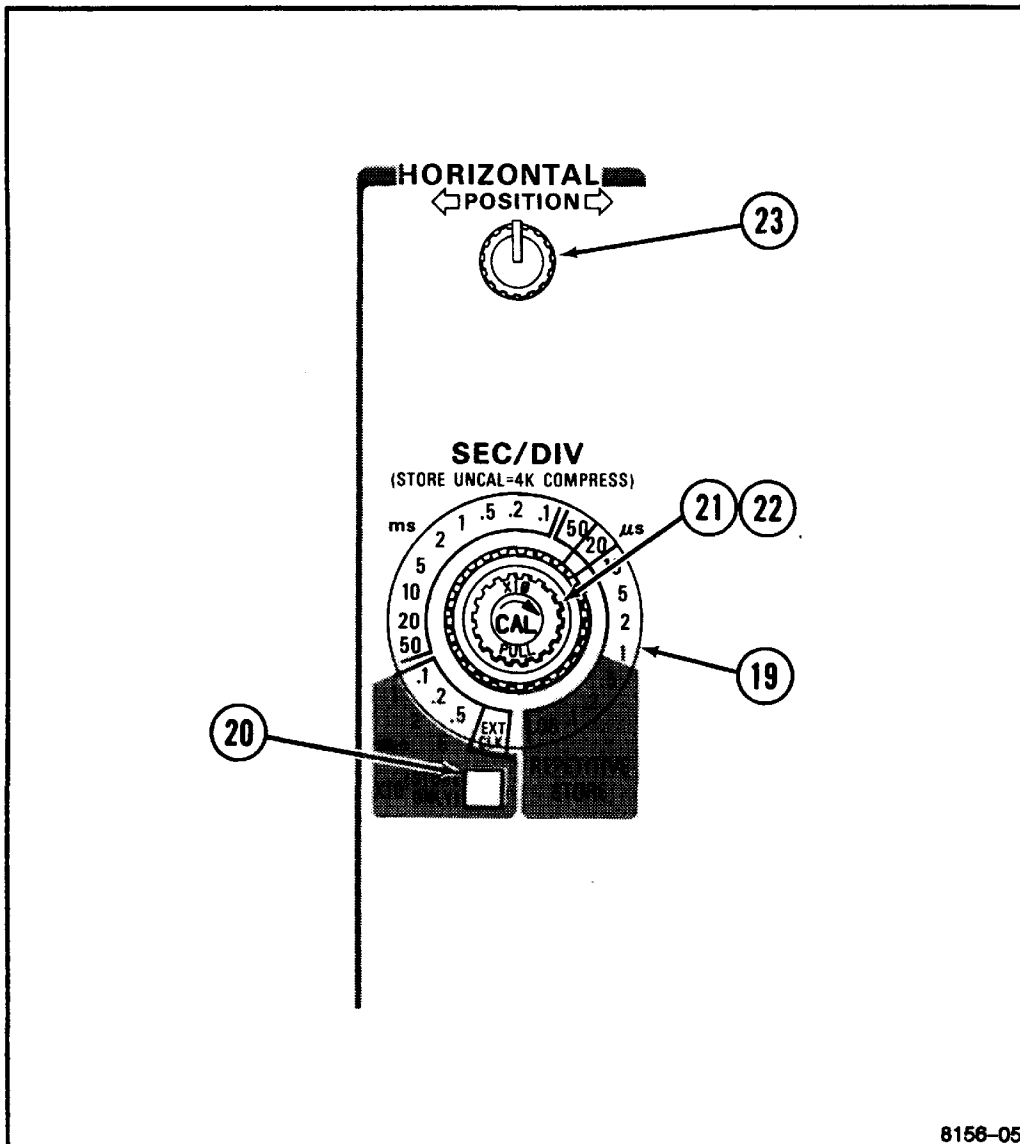

Figure 3-3. Horizontal controls.
Refer to Figure 3-3 for location of items 19 through 23.